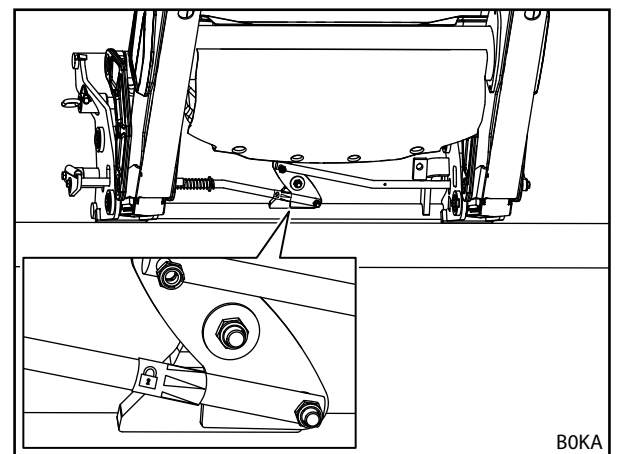

Fig. 79 Use the sticker to check the implement locking mechanism (Euro-MX Combi change frame)
**i** For Euro-MX Combi change frames, the sticker is in the middle on one of the rods (see Fig. 79).